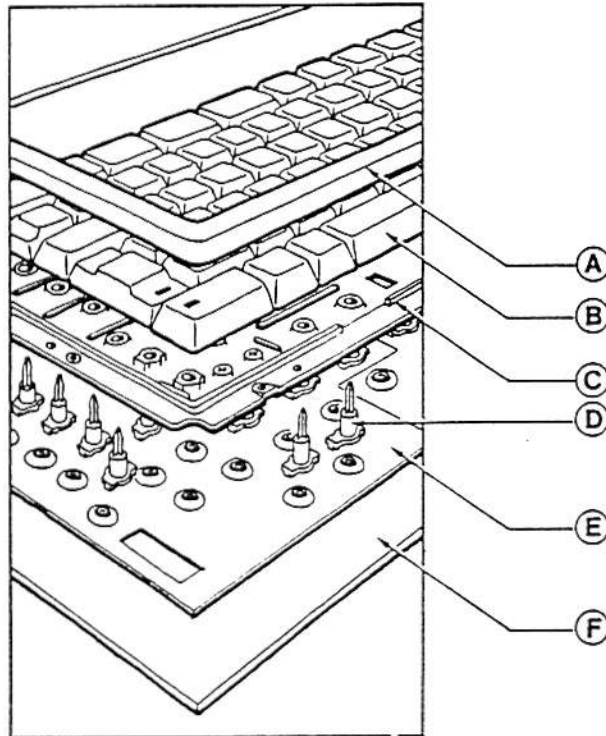

Figure 5.9 6 Levels of the Keyboard Assembly
- (1) Figure 5.9 shows the 6 levels of the Keyboard Assembly.